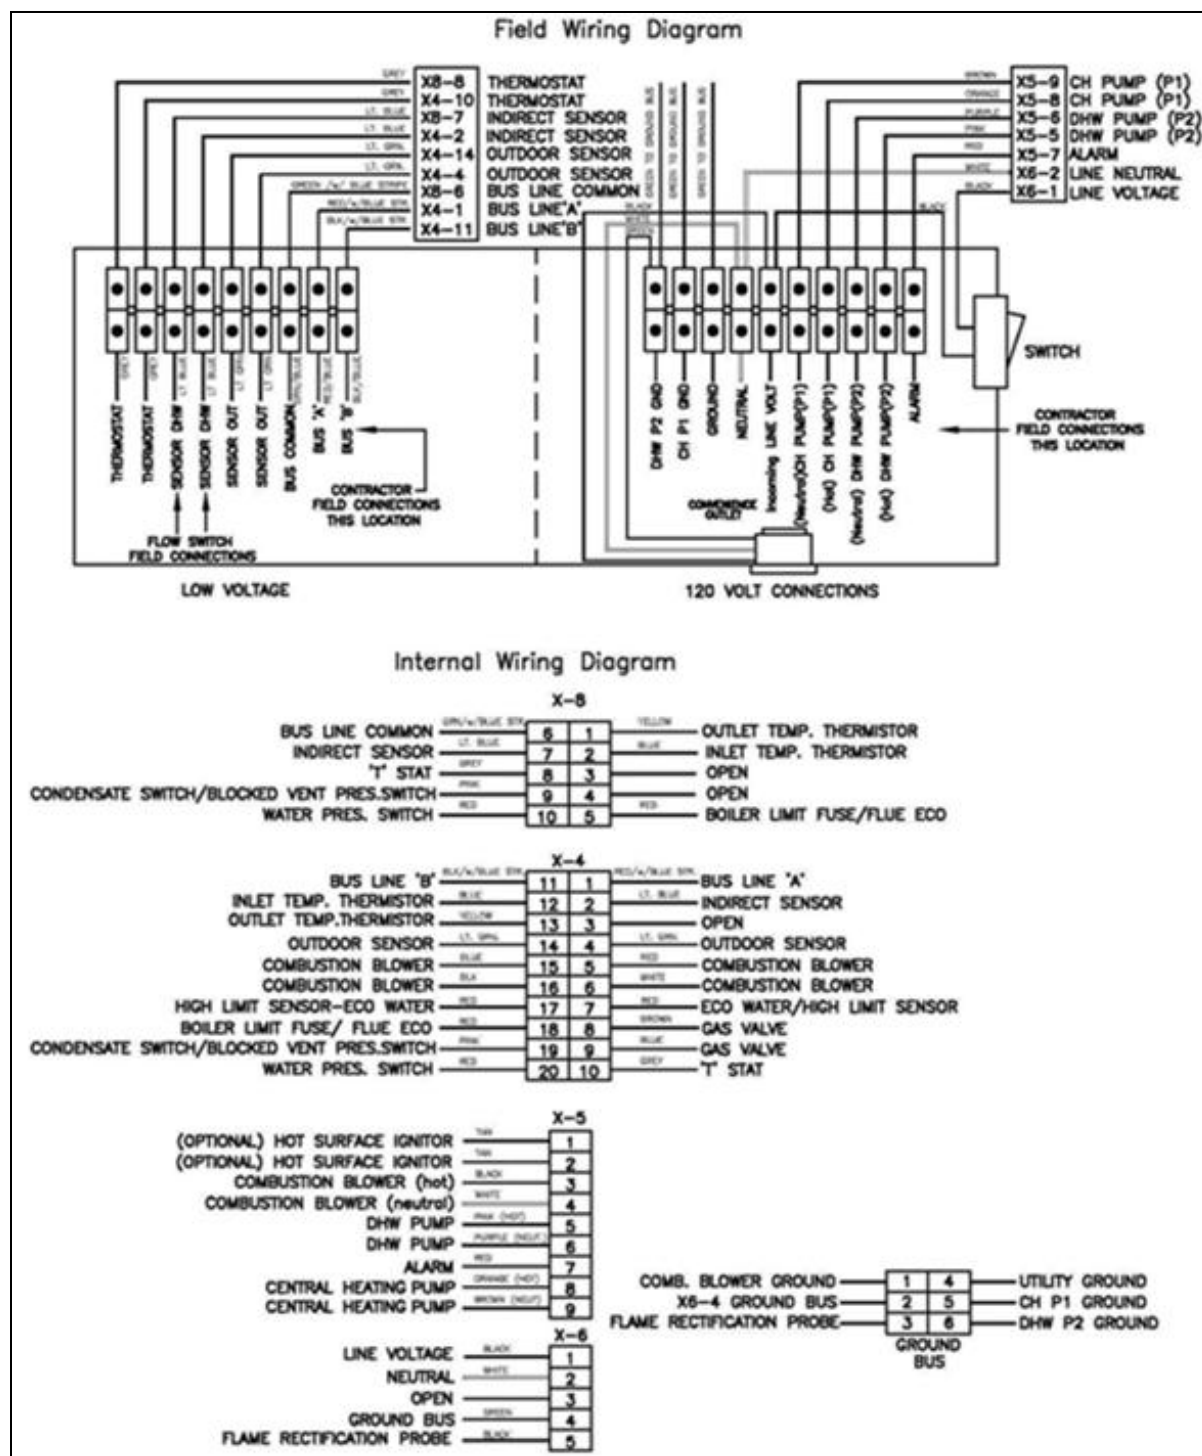

Figure 31
1. Connect 120 VAC power wiring to the line voltage terminal strip located inside the electric junction box, as shown in Figure 31.